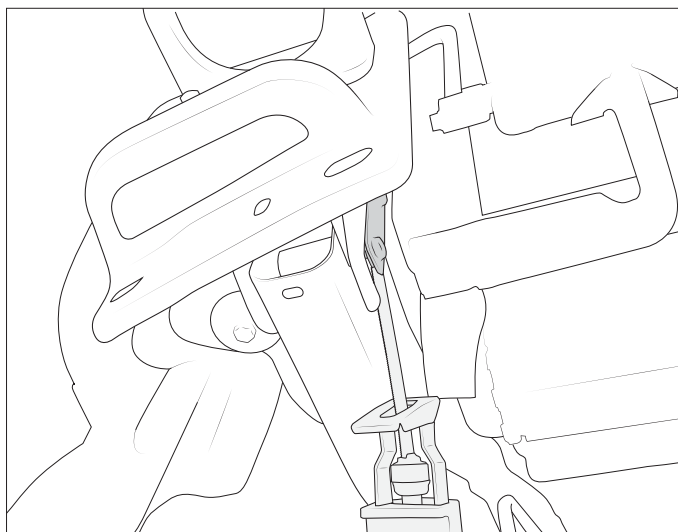

Figure 8
10. On 2010–2013 Diesel trucks remove the remaining bumper brackets by loosening the nuts on the bolt plates and using a reciprocating saw to cut the bolts (fig. 8).